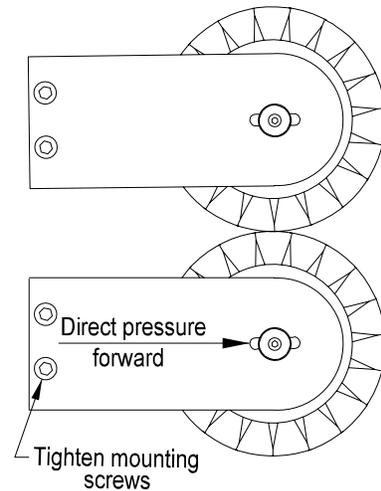

Figure 4.2
3. Apply pressure to the back of the plate (opposite the curved end) in a forward direction toward the brush assembly (Figure 4.2).